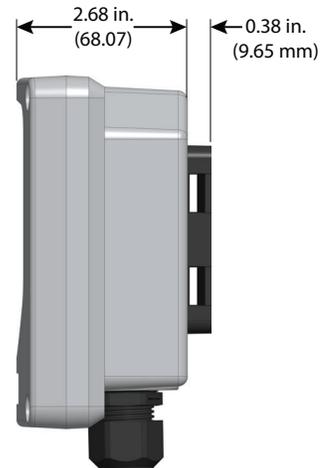

Figure 2: Dimensions
- See Figure 2 on page 6 for enclosure and mounting dimension details. Allow enough room for door swing, maintenance and conduit entrances.